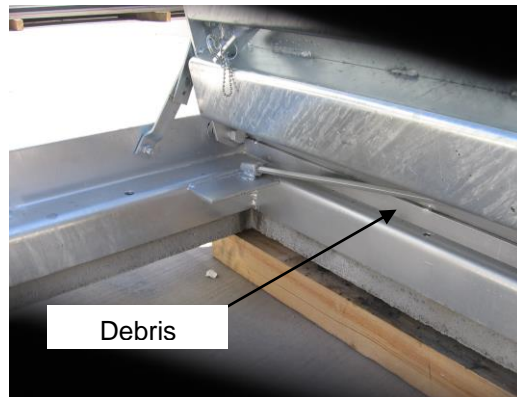

Figure 2.
7. A maximum 1/8" horizontal and vertical gap around lids, with a debris shield welded on the back side of the lids (see Figure 2).